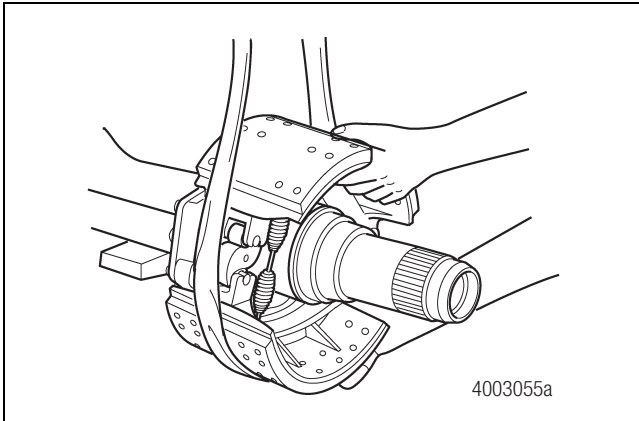

Figure 3.20
4. Use a lifting device to remove the brake assembly and spindle assembly. Figure 3.20.